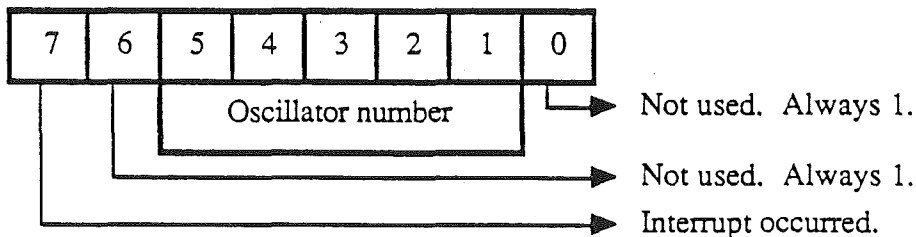

Figure 6-4. The Oscillator Interrupt register at \$E0.
This register contains the status of the DOC Interrupt Request (IRQ) pin and the number of the oscillator that generated the interrupt, if any. When an oscillator reaches the end of a wavetable and the Enable Interrupt (EI) bit for that oscillator has previously been set, the IRQ line and bit 7 of the Interrupt register is then set, and the register number is entered in bits 1-5 of the Interrupt register. Figure 6-4 shows the format of the Interrupt register, followed by a description of each of the bits.